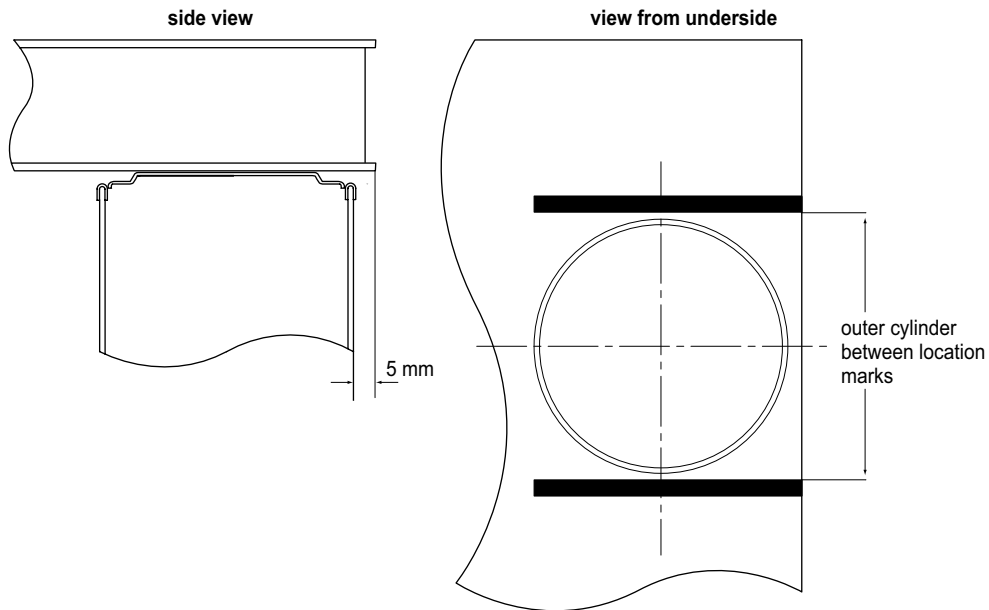

Fig. 4.4 Location marks
- 4) Ensure that the supports are positioned correctly as identified by the location marks on the underside of the table – Fig. 4.4.